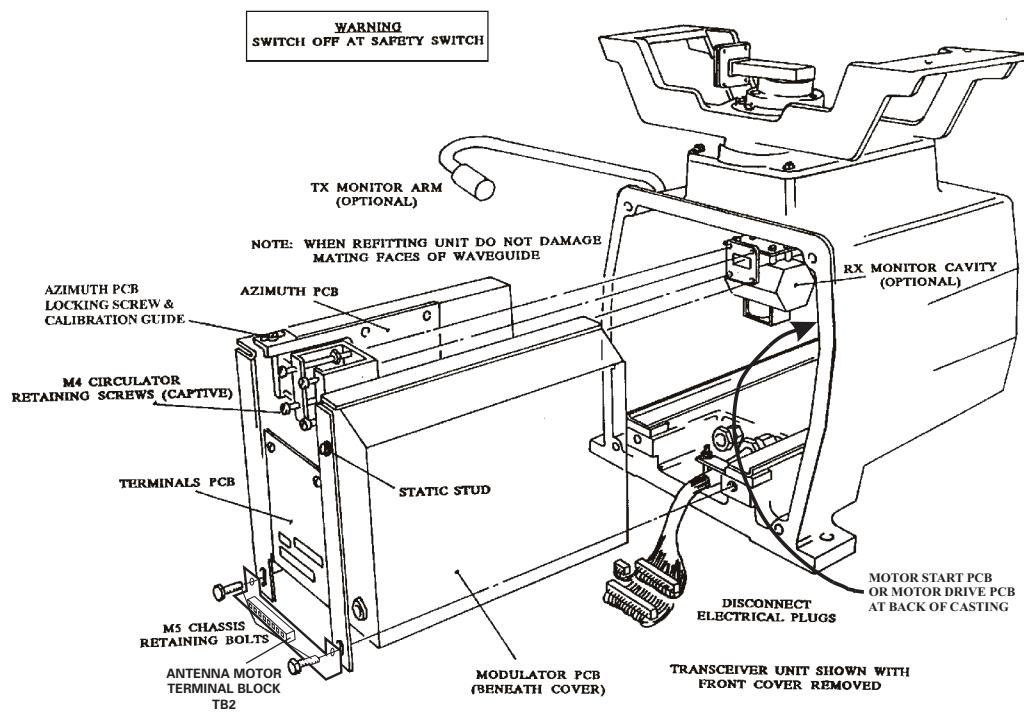

Figure 9b - Transceiver Electronics Module: Access
- 28 To gain access to PCBs and Modules (refer to Figure 9b):
- (1) Remove the four captive screws securing the cover to the rear of the Transceiver and remove the cover.
- (2) Disconnect Plugs PLF, G, K, M and L from the Antenna Terminals PCB.
- (3) Remove the four screws securing the RF Head to the Rotating Joint.
- (4) Remove the two bolts securing the Transceiver Electronics Module to the sliding rails
- (5) The Transceiver Electronics Module can now be removed from the Transceiver.